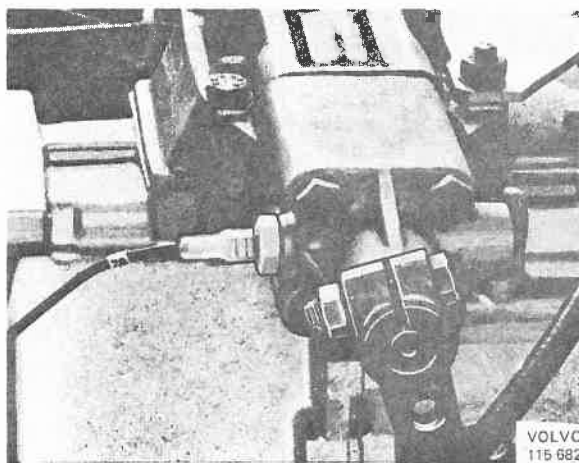

Fig. 38-24. Contact for reverse lights
2. Disconnect the cable and remove the contact, see Fig. 38-24.